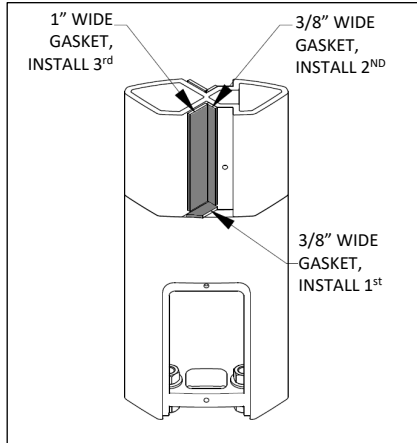

Fig. H5 – Gasket install on verticals
3. Install gaskets in verticals at locations that require glass panels. See Fig. H5 for orientation of gaskets. Remove paper backing to expose adhesive before attaching to vertical.